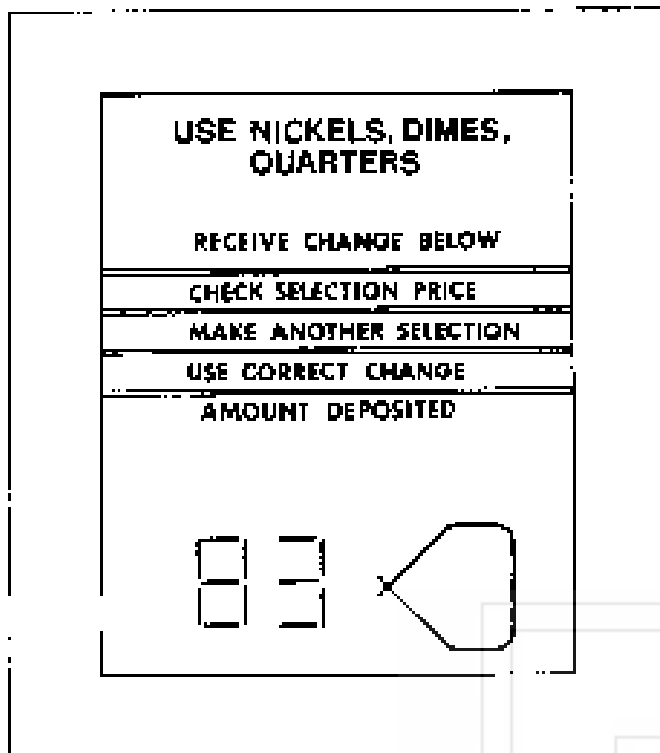

Figure 21. SHOWING SELECTION
- B. Press button 14 on the selection panel. If any of the motors are not functioning (jammed, out switch, bad harness, etc.) the first non-functioning motor in the series will be displayed on the selection panel display (Figure 21).